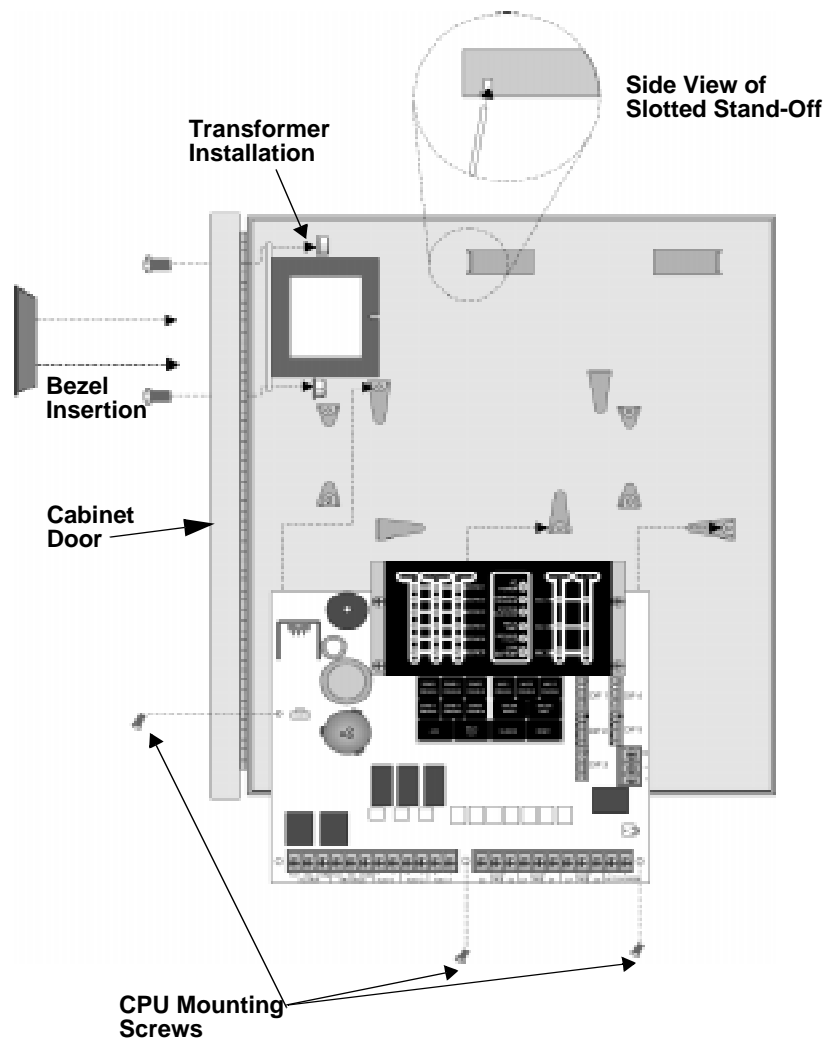

Figure 3-3 Assembly Diagram for the SK-6324
4. Snap the bezel into the opening in the front of the cabinet. See Figure 3-3.
5. With the two #8 Screws and the two #8 nuts (with built in washers), mount the transformer in the holes in the upper left hand corner of the cabinet. See Figure 3-3.